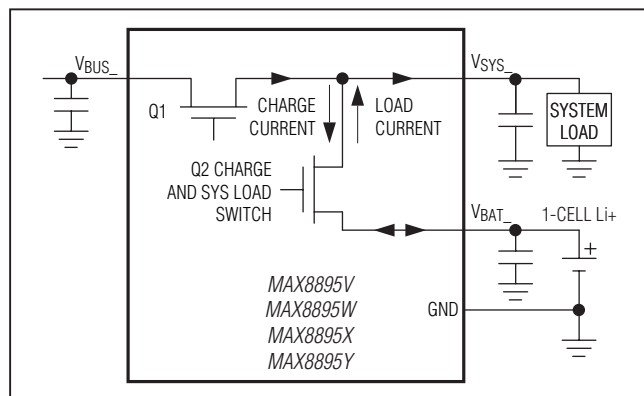

Figure 19. Smart Power Selector Block Diagram
The Smart Power Selector seamlessly distributes power between the external VBUS_ input, the battery (VBAT_), and the system load (VSYS_). See Figure 19. The Smart Power Selector basic functions are:
An internal 55mΩ (typ) MOSFET connects VSYS_ to VBAT_ (Q2, Figure 19) when no voltage source is available at VBUS_ and VBAT_ is above the battery UVLO threshold. When an external source is detected at VBUS_, this switch controls the charging of VBAT_ and VSYS_ is powered from the valid input source through the input current limiter.
- **Input Voltage Limiting:** If the VBUS_ input voltage is above the overvoltage threshold (VBUS_OVP), the MAX8895_ enters overvoltage lockout (OVL). OVL protects the MAX8895_ and downstream circuitry from high-voltage stress up to 16V at VBUS_. In OVL, VINT_3V3 remains on, the input switch that sees overvoltage (Q1, Figure 19) opens, FLT is pulled low, and UOK, CHG, DET_DONE, and PREQ become high-impedance. In OVL, the charger turns off. The VBAT_ - VSYS_ switch (Q2, Figure 19) closes, allowing the battery to power VSYS_. VBUS_ is also invalid if it is less than VBAT_, or less than the USB undervoltage threshold (VBUS_UVLO_F). With an invalid input voltage, VSYS_ connects to BAT_ through a 55mΩ (typ) switch (Q2, Figure 19).